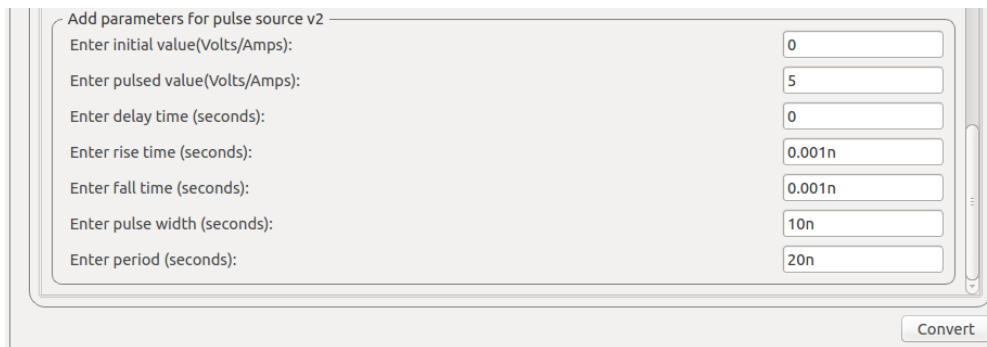

Figure 9.12: Value of Source v2
- Now click on *Source Details* and enter the values for Source v1 and source v2 as shown in figure Fig. 9.11 and Fig. 9.12